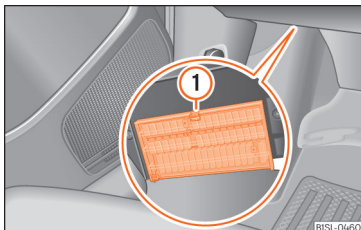

Fig. 83 Under the dashboard on the driver side: lid of the fuse box.
- **Open:** Press the unlock button »» **Fig. 83** ① until it is possible to open the cover. Fold the cover down.
- **Close:** Fold the cover up in the opposite direction to the arrow until it clicks into the locking lever ①.